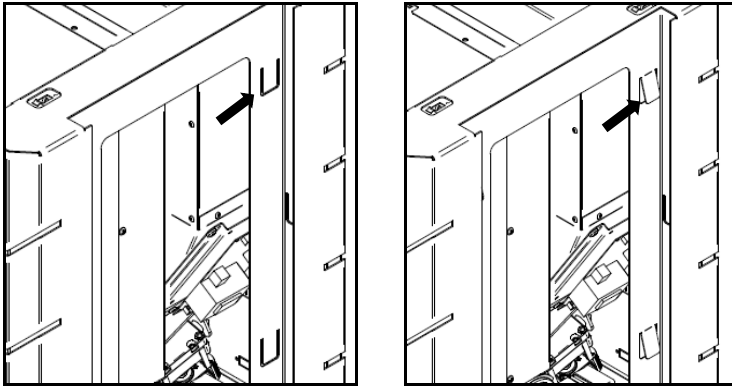

Figure 28 - Ceramics and glass supports
h) To place Kili's glass or ceramic front panels, before performing the previous procedure, the metal side tabs in the side structure (Figure 28) must be bent inwards to secure the parts onto the structure (there are 6 metal side tabs to bend).